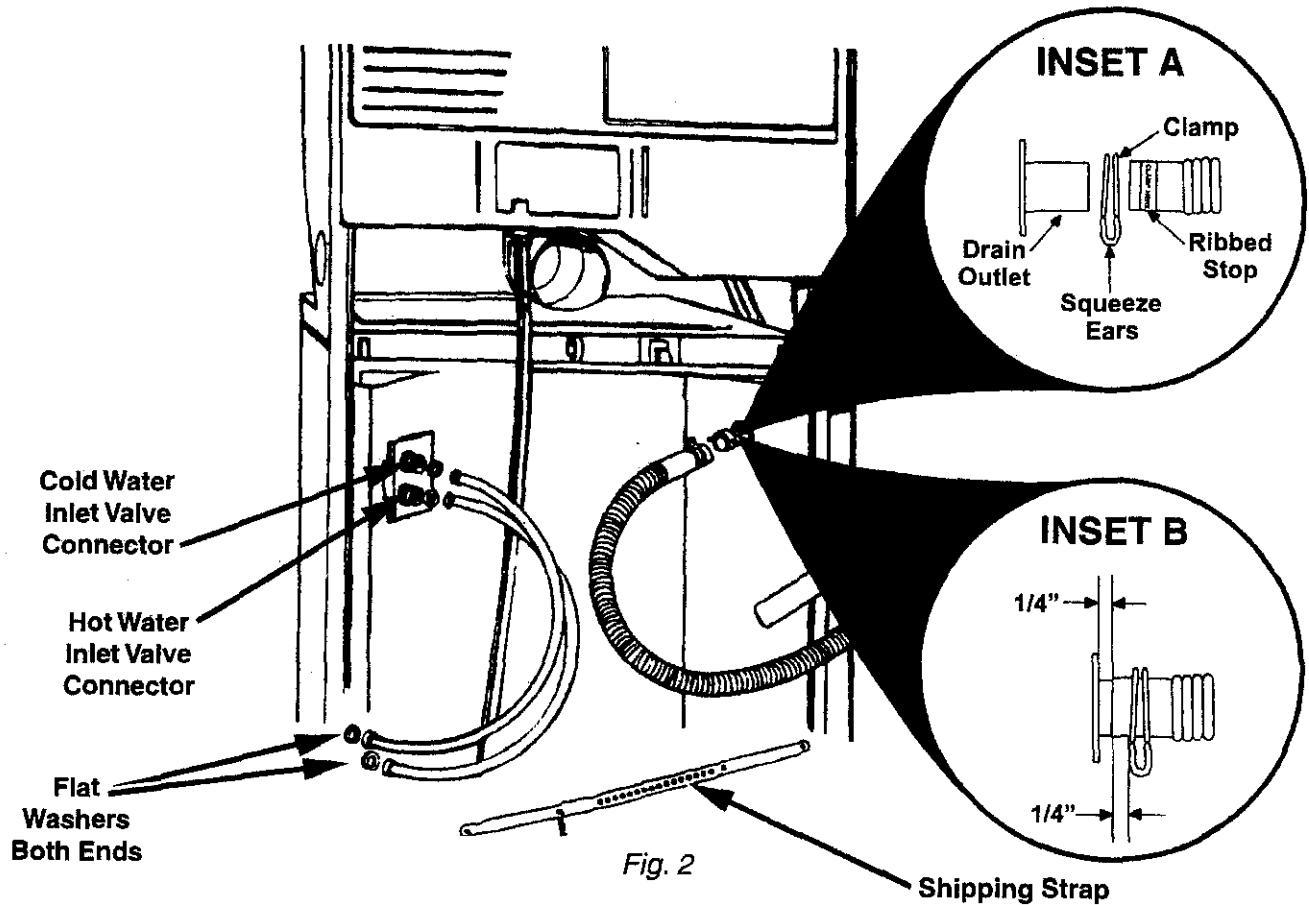

Fig. 2
1. Remove the yellow rip cord from the rear of the washer. Be sure two (2) cotter pins come out with the rip cord. (Fig. 2, page 2) Save this strap for use later.
2. Use the new hoses supplied with the laundry system. Insert a flat washer into each end of both hoses. (Fig. 2, page 2)
3. Attach one hose to the bottom (hot water) inlet valve connector first. Then, attach the other hose to the top (cold water) inlet valve connector. Hand tighten both connections. Finish tightening with a pair of pliers, an additional 2/3 turn. (Fig. 2, page 2)
5. Squeeze the ears of the drain hose clamp with a pair of pliers and place the clamp over the end of the drain hose. (*Fig. 2 - Inset A*)
7. Position the clamp over the drain hose area marked "clamp." Release the clamp. Clamp should be $\frac{1}{4}$ " from the end of the hose. (*Fig. 2 - Inset B*)